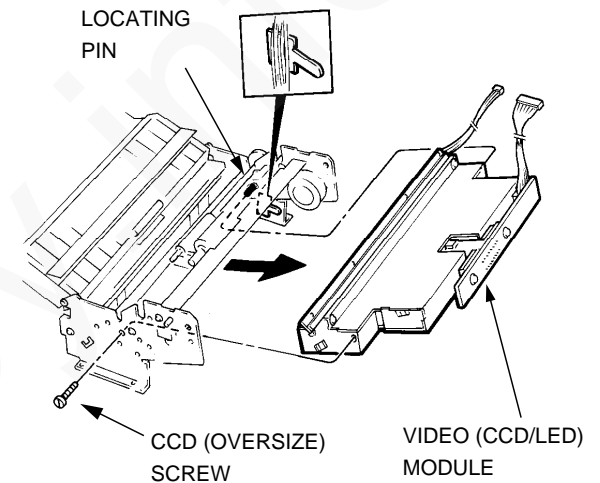

Figure 3. Video (CCD/LED) module
8. Remove the video (CCD/LED) module (figure 3).